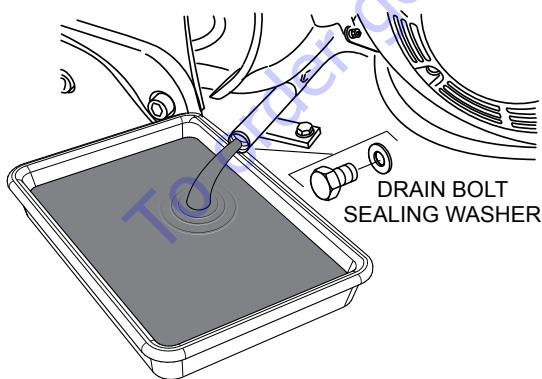

Figure 22. Draining Engine Oil
- Remove the oil drain bolt (Figure 22) and sealing washer and allow the oil to drain into a suitable container.